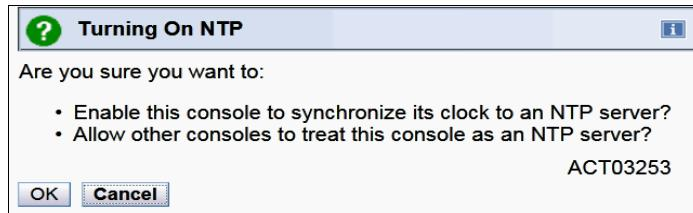

Figure 8-10 Turning On NTP (server)
- In the **Turning On NTP** window (Figure 8-10), confirm that you want to enable the HMC as time server. Click **OK**.